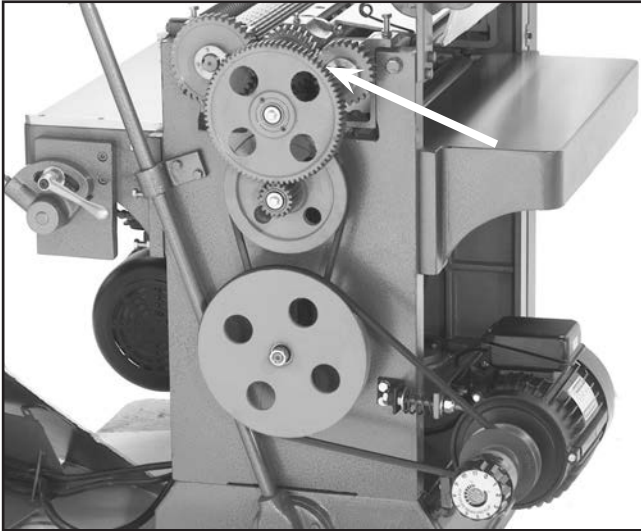

Figure 26. Location of spur gears.
2. **Spur/Table Lifting Gears** — Clean and regrease as determined by visible inspection for dust or grime in the grease. See **Figures 26 and 27** for gear locations.